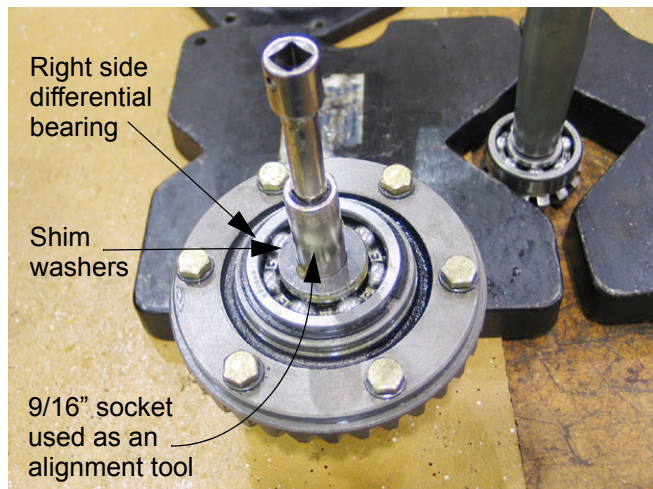

Figure 9.42
- 9.42. Stick the anticipated amount of shim washers to the right side differential bearing with grease. Shims are available in thicknesses from .005" to .025" (.127mm to .635) in .005" increments. Use as required to achieve correct back lash. See Figure 9.42.